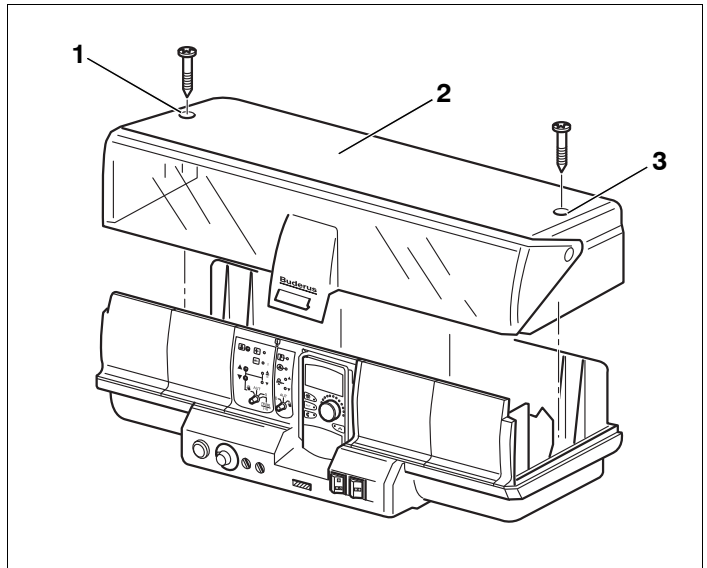

Fig. 3 Removing covers
- Loosen both screws (→ Fig. 3, [1] und [3]) on the top side of the appliance.
- Remove terminal cover (→ Fig. 3, [2]).